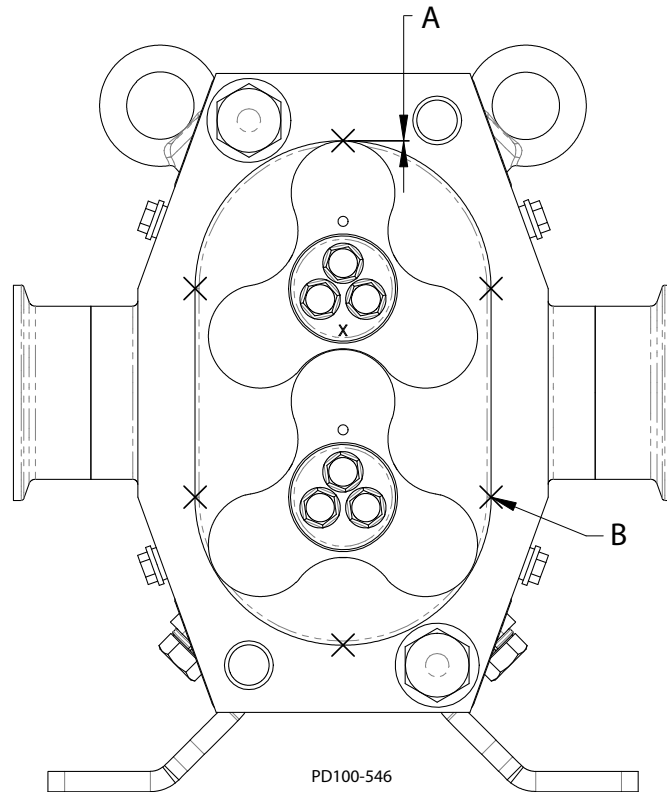

Figure 64 - Radial Clearance Check
1. With the rotors synchronized, measure the radial clearance of each lobe (Figure 64, item A) and verify that the clearance falls within the range shown in Table 12.
2. Check clearance at all six points in the body as shown. See Figure 64, item B.